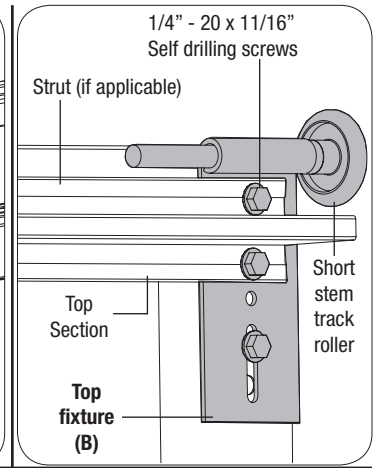

FIG. 3.2
For Models 6600/8300/8500: Secure the top fixture and strut (if applicable) to the top section with (3) 1/4" - 20 x 7/8" self drilling screws through the upper and lower slots of the top fixture. Finish re-attaching the strut (if applicable) using the 1/4" - 20 x 7/8" self drilling screws removed previously, as shown in **FIG. 3.2**.